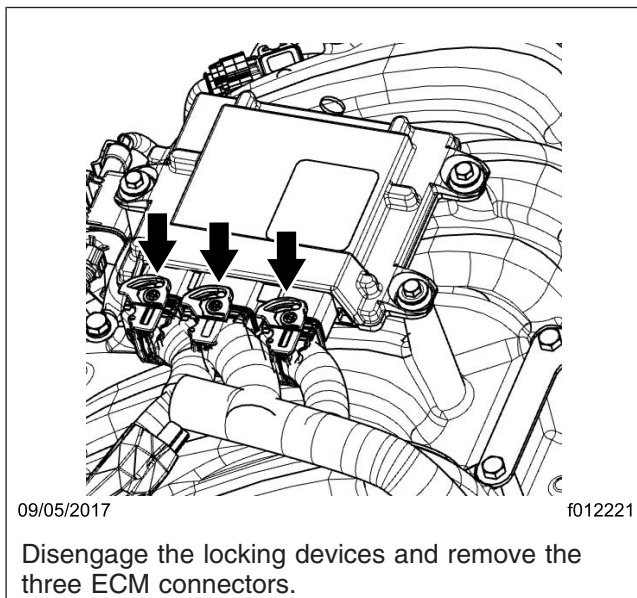

Fig. 5, Electronic Control Module
13. Disengage the locking devices and remove the three electronic control module (ECM) connectors at the ECM. See Fig. 5. Move the harness out of the way.